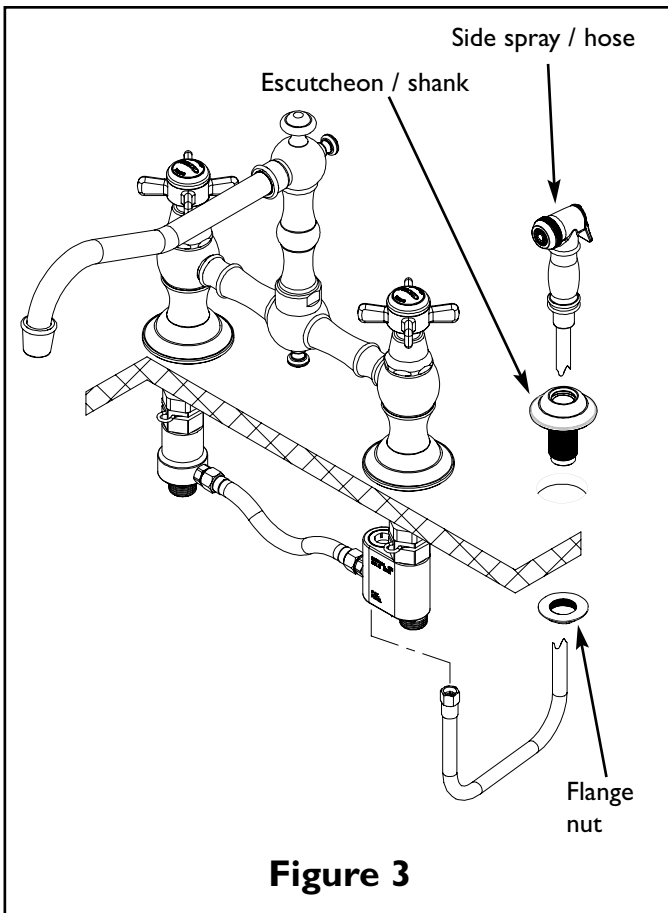

Figure 3
4. Place the side spray escutcheon with shank through mounting surface and secure into place with flange nut. See Fig. 3.
5. Drop side spray hose through escutcheon and thread onto diverter assembly. Do not use the adapter provided with spray assembly. See Fig. 3.